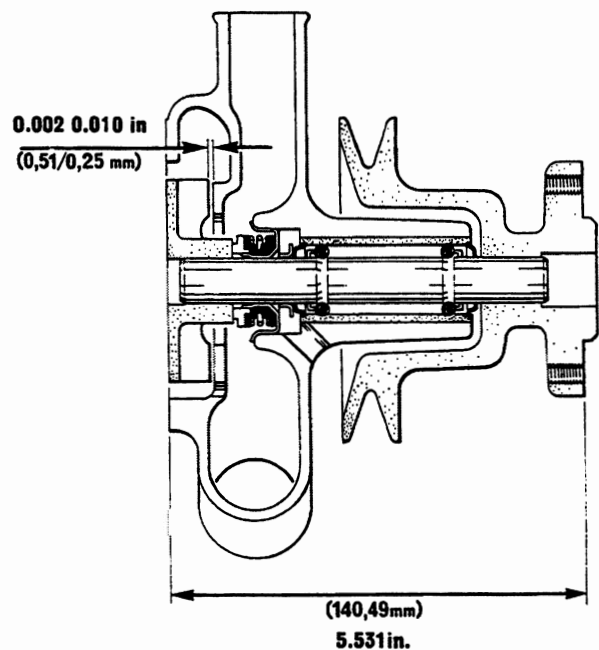

Fig. N6
7. With a support on the impeller end of the water pump shaft, press on water pump pulley until the front end of pulley aligns with front end of shaft. Where the fan mounting face is extended forward (see fig. N6), press the pulley on the water pump shaft until the fan mounting face is 140,49 mm (5.531 in) from the rear face of the pump body.